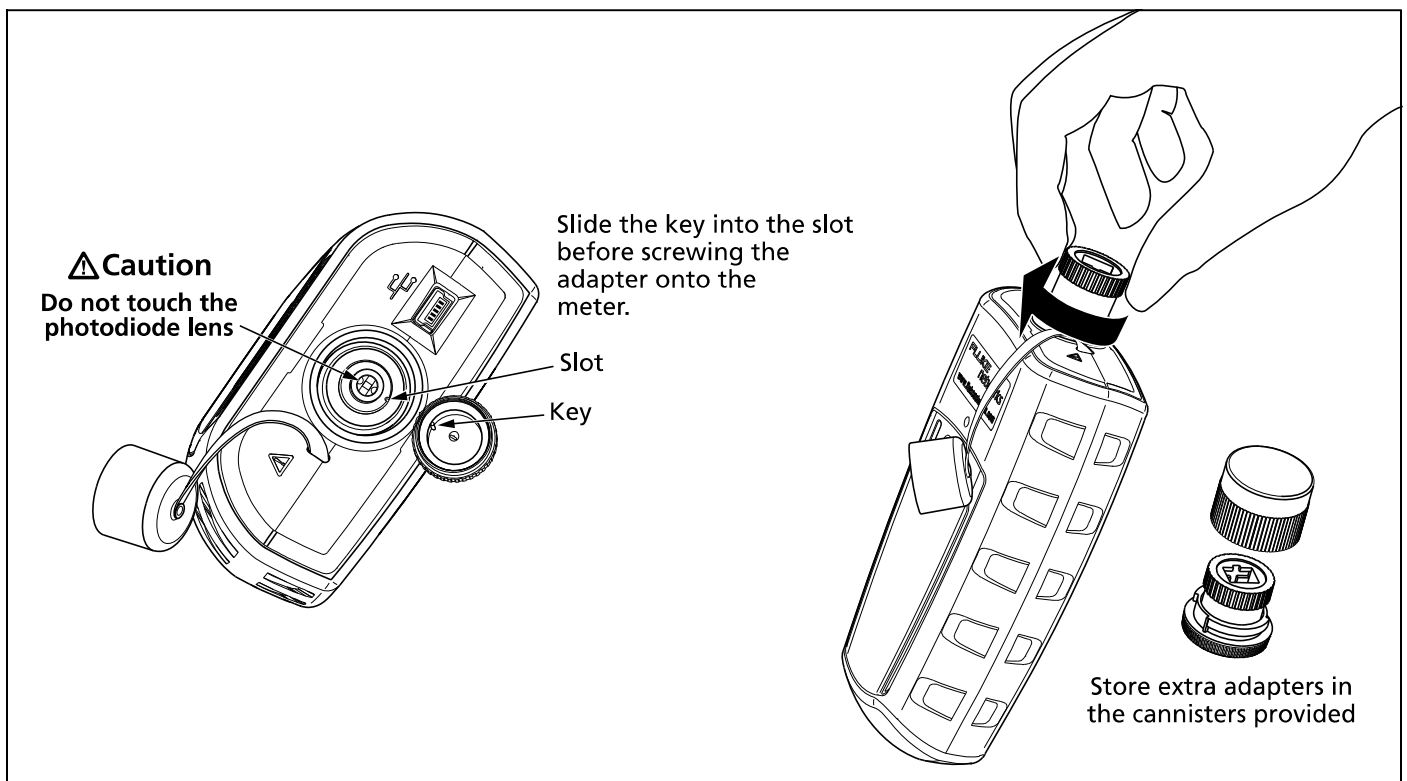

Figure 4. Installing the Connector Adapter
- Do not touch the photodiode lens (see Figure 4).
To install a connector adapter, refer to Figure 4 and do the following: